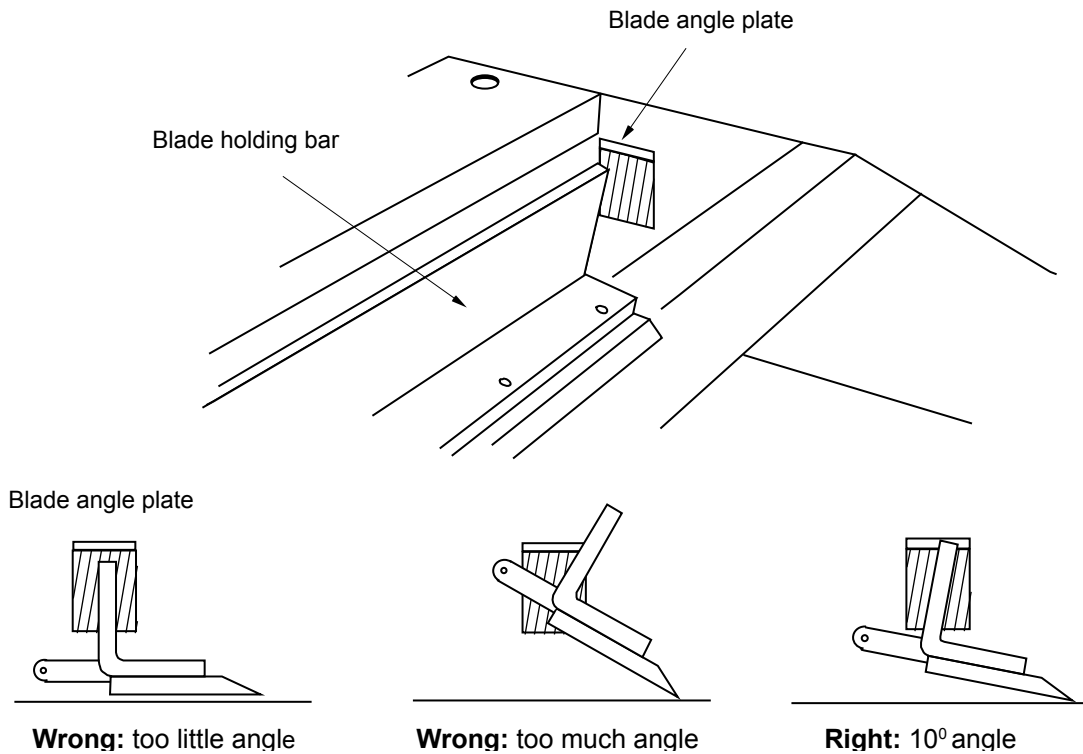

Figure 9.6 *Blade Angle Adjustment Plate*
Step 1: Set blade at approximately 10° angle as shown on the blade angle adjusting plate (Figure 9.6) by rotating center hand wheel control.
A blade angle plate is located on the inside of the conditioner left side plate (see Figure 9.6). When the blade holding bar is lined up, parallel to the series of lines, the blade angle is approximately 10°.